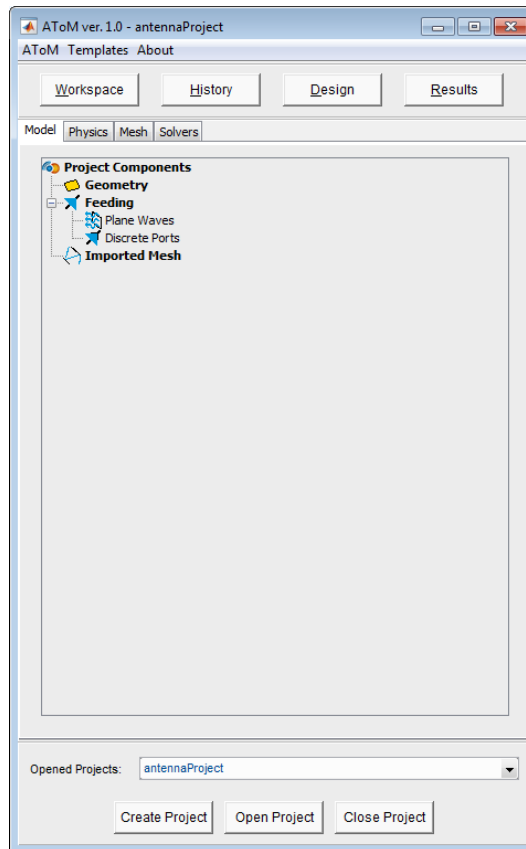

Figure 9.1: Main Viewer. Model List Viewer is the tree representing simulation model, Project Viewer is on the bottom part of figure.
- Main Viewer - main figure of **AToM** GUI which contains several tabbed panels integrating another viewers. See Fig. 9.1. This viewer is shown right after creating **AToM** with GUI.
placed in `+interface\+templates\` folder and user defined template can be simply defined using these default templates. Switching between templates is possible via Main Viewer (Fig. 9.1) in menu “Templates”. To reset list of templates in menu “Templates” it is necessary to close Main Viewer and open it again. By default, during the start of GUI `interface.templates.defaultTemplate` is always loaded. If change of default template is needed, original file `defaultTemplate.m` has to be rewritten (modified).